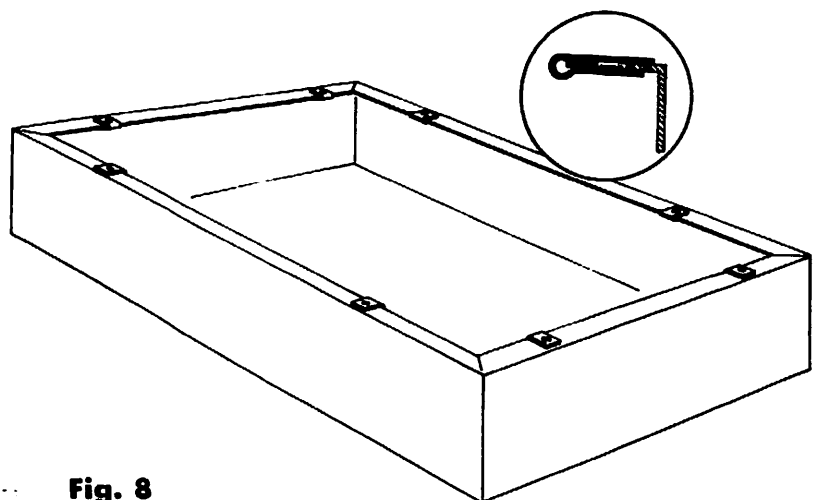

Fig. 8
8) Press a speed nut in place over each hole on the bottom flange of the chassis (see Fig. 8).